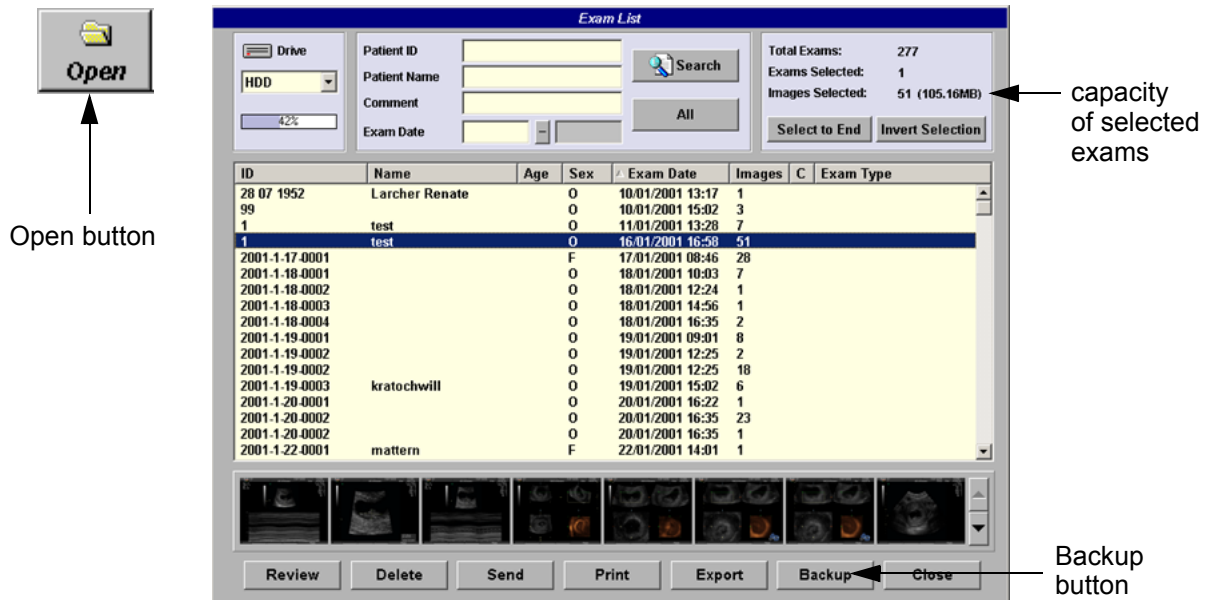

Figure 4-37 Sonoview Screen
- 3.) When you click the **OPEN** button on the upper left side of the screen, a list of all the exams is displayed see Figure 4-37.